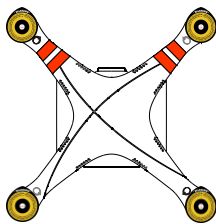

Fig.1
1. (Fig.1) Remove four warning cards from the motors after you read them.